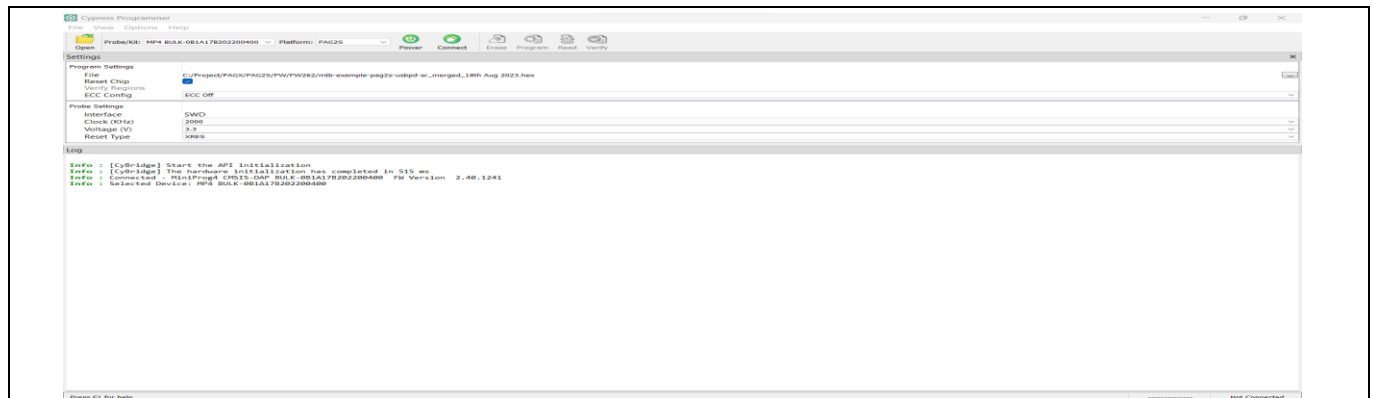

Figure 5 Programming interface to program EZ-PD™ PAG2S
1. On the programmer window, click **Open** to select the firmware (.hex) file from the folder as shown in Figure 5.